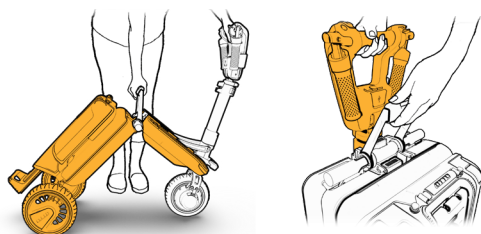

Figure 43
6. Using the main handle to pull the center upwards and towards the rod (1) until it clicks and locks in place (2) (See Figure 43).